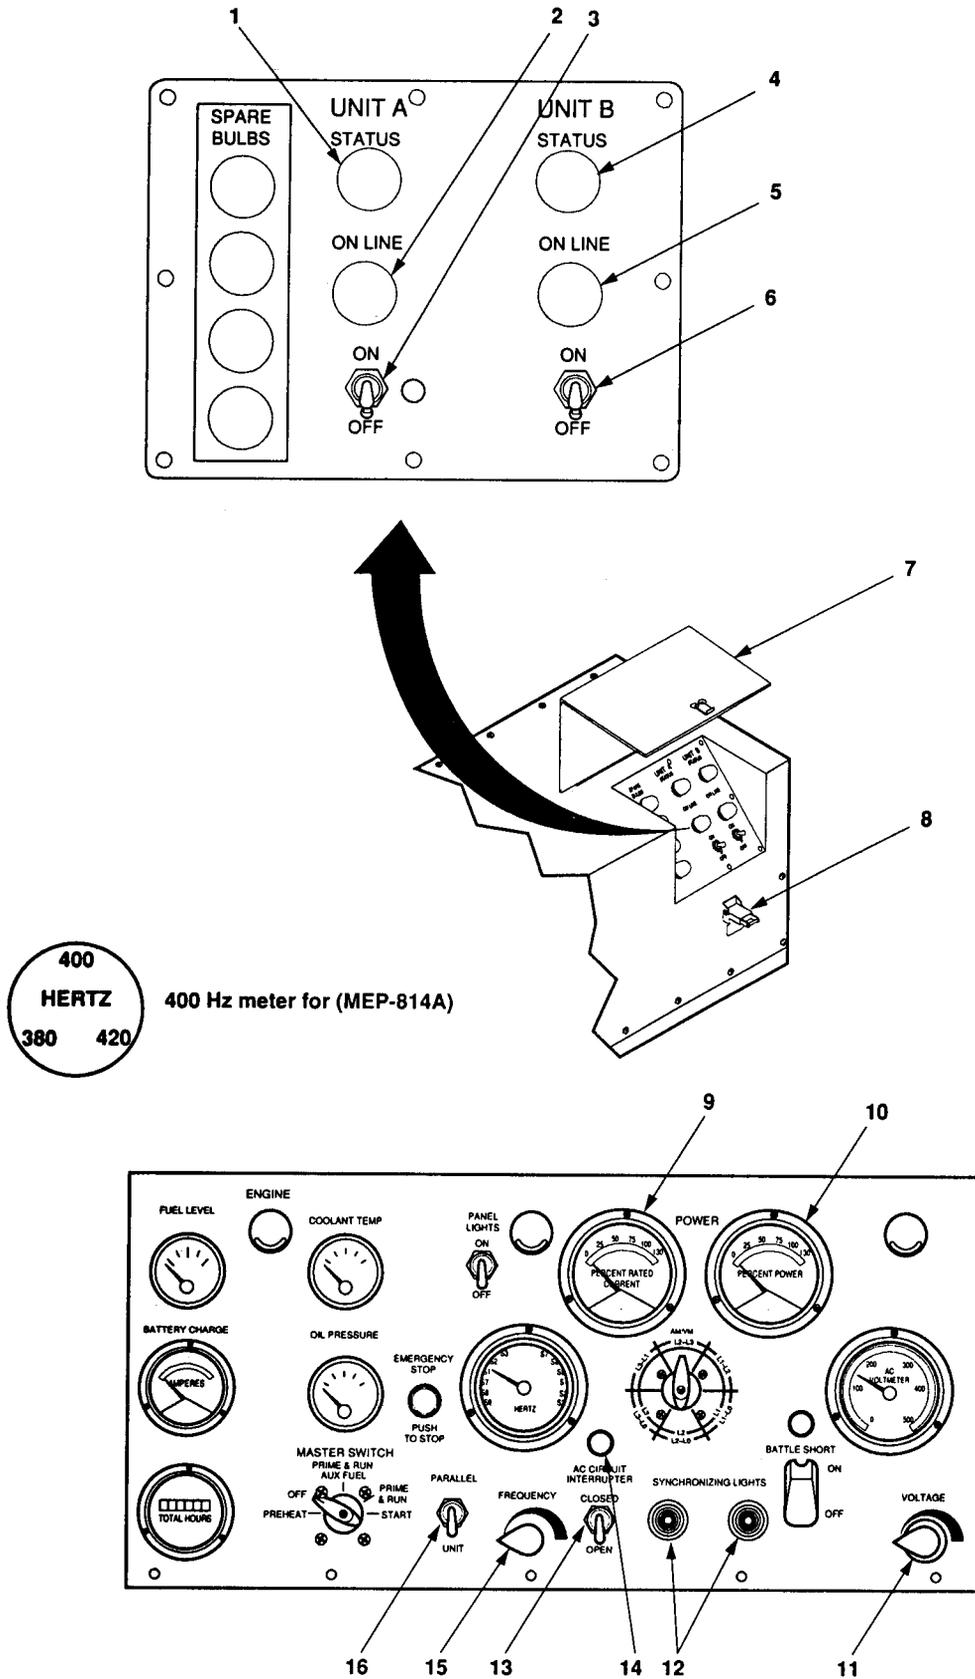

Figure 2-11. Load Transfer Operation.
- c. On operating generator set (set 1), set UNIT-PARALLEL switch (16, figure 2-11) to PARALLEL.
- a. Set the switch box ON/OFF switch (3 or 6, figure 2-11) for the generator set to be stopped to OFF position.